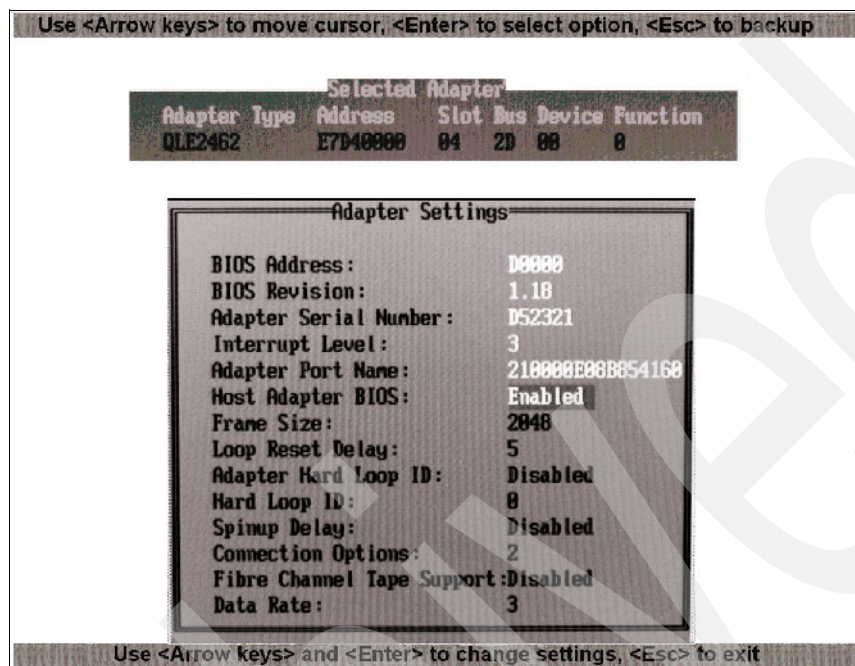

Figure 26-28 Adapter settings
6. Change the Host Adapter BIOS setting from **Disabled** to **Enabled** (see Figure 26-28) and then press Esc to go back.